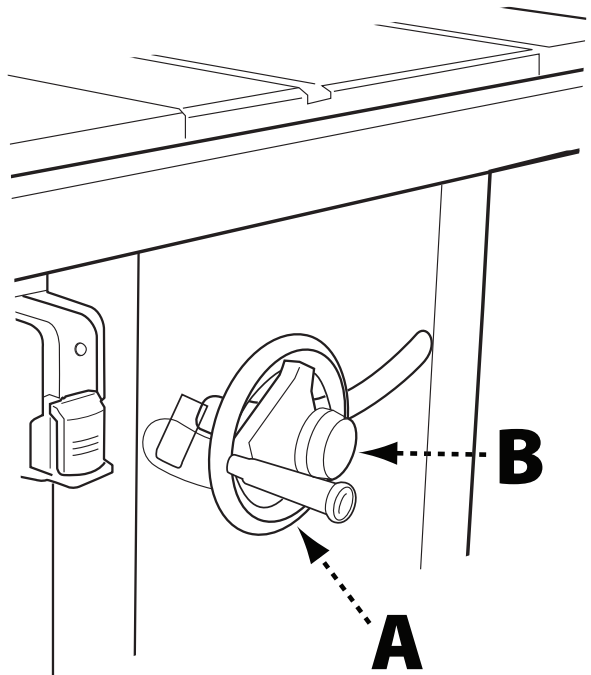

FIGURE 12
Raise or lower the blade with the hand wheel (A) located on the front of the saw (See Figure 12).
1. Before raising or lowering the blade, be sure to loosen the lock knob (B) by turning it counterclockwise.